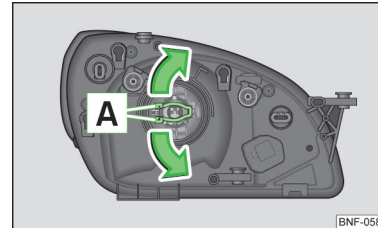

Fig. 128
- Press the safety catch **A** » Fig. 128 in the direction of the headlamp and then unhook in the direction of the arrow.